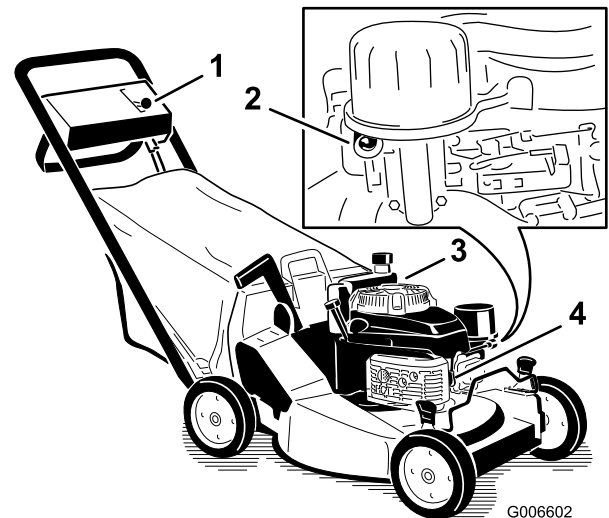

Figure 12
1. Connect the wire to the spark plug (Figure 12).
4. Push in the primer once with your thumb, holding it in for a second before releasing it (Figure 12).